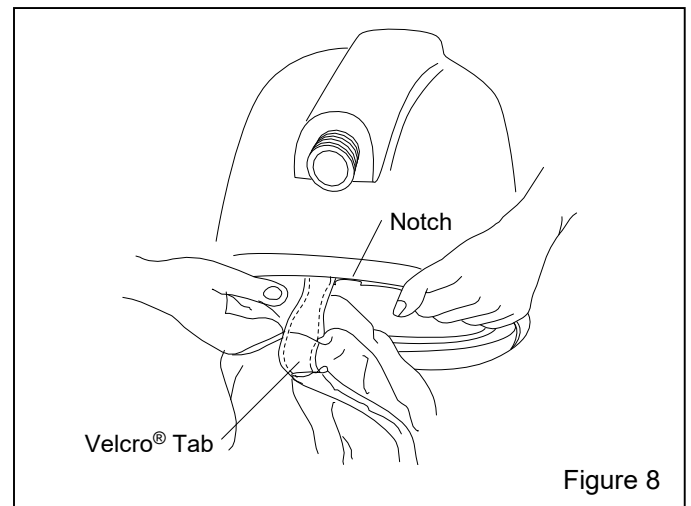

Figure 8
9.6 Remove and Replace the Cape – Figure 8
9.6.2 Separate the Velcro® tabs on the back of the cape. Refer to Figure 8.